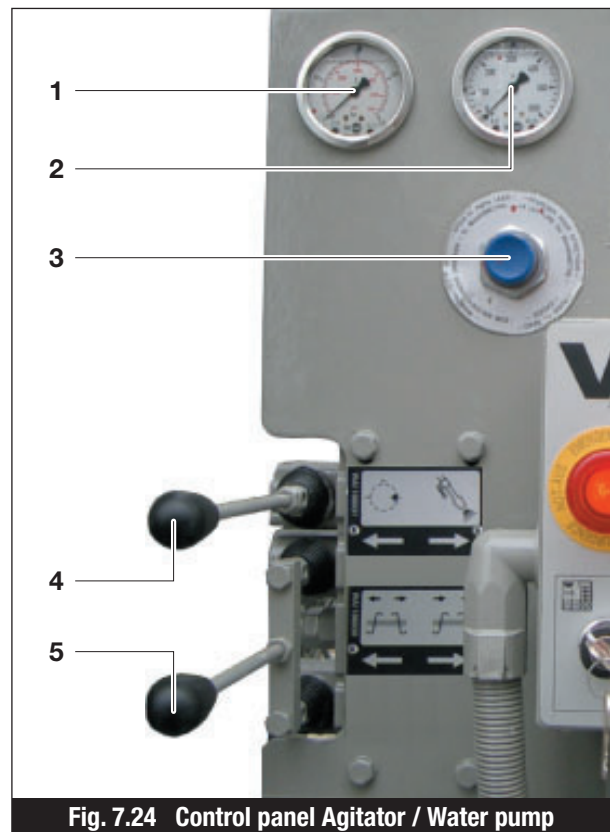

Fig. 7.24 Control panel Agitator / Water pump
- ☞ During cleaning work the control lever (Item 5, Fig. 7.24) must always be in the 0 position and must on no account be moved during the cleaning work!
The control lever “Agitator” (Item 5, Fig. 7.24) switches the agitator on (even when the Emergency Stop button has been pressed).
The manometer (Item 1, Fig. 7.24) shows the actual pressure at the agitator / water pump (optionally: high pressure water pump and compressor). The maximum pressure that can be set is 210 bar.
The control lever “Water pump” (Item 4, Fig. 7.24) switches the water pump on.
The manometer Item 1, Fig. 7.24) shows the actual pressure at the agitator / water pump (optionally: high pressure water pump and compressor). The maximum pressure that can be set is 210 bar.
High pressure water pump or compressor, available as an option, are controlled by the same control lever (Item 4, Fig. 7.24).
The control lever “Vibrator” (Item 8, Fig. 7.24) switches the vibrator on.
By-passing or blocking the manometer protection valve (Item 3, Fig. 7.24) the actual pump pressure is shown at the manometer (Item 2, Fig. 7.24). At 320 bar the hydraulic pump has switched to “0”. The probable cause is a blockage in the conveying pipe.